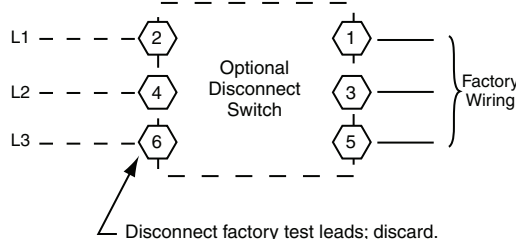

Fig. 20 — Power Wiring Connections
Field power wires are connected to the unit at line-side pressure lugs on compressor contactor C and indoor fan contactor IFC (see wiring diagram label for control box component arrangement) or at factory-installed option non-fused disconnect switch. Maximum wire size is #2 AWG (copper only). See Fig. 20 and unit label diagram for field power wiring connections.
The factory-installed option non-fused disconnect (NFD) switch is located in a weatherproof enclosure located under the main control box. The manual switch handle and shaft are shipped in the disconnect enclosure. Assemble the shaft and handle to the switch at this point. Discard the factory test leads (see Fig. 20).
2. Install power lines to terminal connections as shown in Fig. 20.